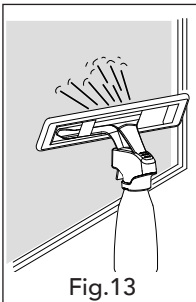
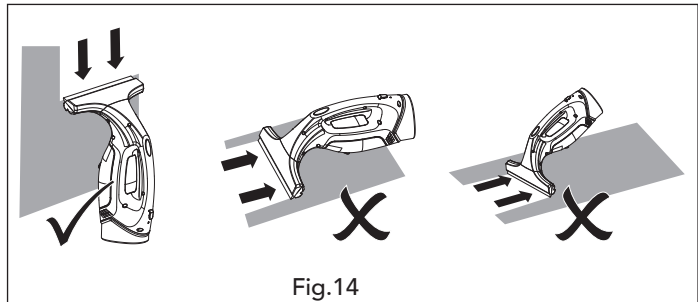

Fig.13
Fig.14
- Fill the spray bottle (9) with water/ window cleaning agent solution.
- Set the sprayer tip (7a) to the selected stream type and evenly spray the water on the surface you want to clean (Fig.13).
- Clean the surface with the microfibre cloth (6). Re-spray if necessary.
- Press the On/Off switch(5) to turn on the product.
- Set the product with the suction attachment (1) at the top of the surface to be cleaned (e.g. a window). Slowly move the product all the way down the surface being cleaned, ensuring that the rubber blade remains in contact with the surface at all times. Water and detergent residue will be removed and sucked into the dirty water tank (2) (Fig.14).
- If water level reaches the max.mark (2g), switch off the product and empty the dirty water tank (2).